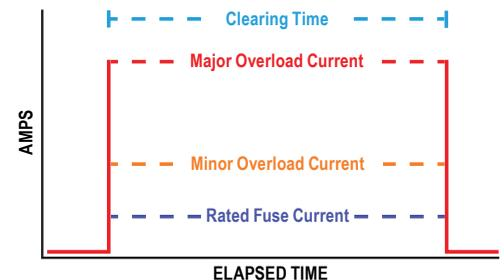

Figure 1 - Ideal fast & stable current rise-time
Fuses and other current interruption devices are normally tested to application-specific standards such as IEC 60127, UL 248, and SAE J1284. One item common in all standards is the need to accurately measure the *Clearing Time* (Fig. 1) when the unit-under-test is subjected to an overload current that exceeds its rating. To accurately measure this time requires precise current control along with sufficiently fast current and voltage rise times in the sub-mS range. Below are three (3) different testing approaches along with considerations for each.